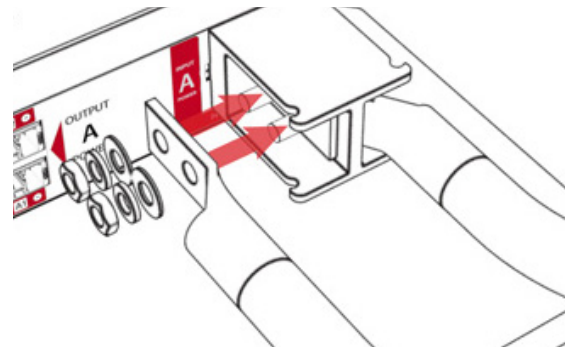

Figure 11. HOT input
Step 2. Secure the HOT input cables/lugs to the HOT input studs located on the rear of the panel (see Figure 11). Ensure that all hardware is tightened.